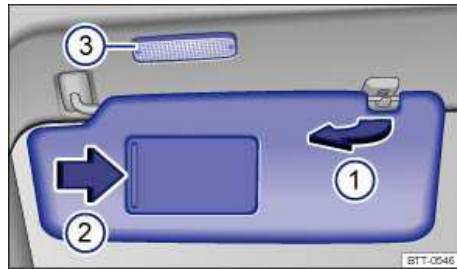

Fig. 83 In the headliner: Sun visor.
- Lift it out of the retaining clip ⇒ fig. 83 \(1\) and swivel it over toward the door.